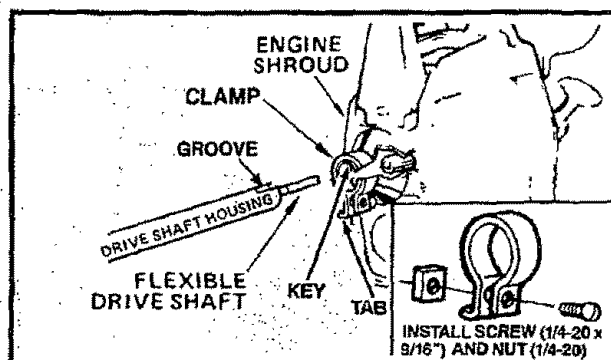

Figure 5
- Place the clamp from the loose parts bag on the engine shroud as shown in Figure 5.
- Fit the end of the flexible drive shaft into the square-shaped opening inside the engine shroud. Figure 5.
- Install clamp screw and square nut as shown in Figure 5.